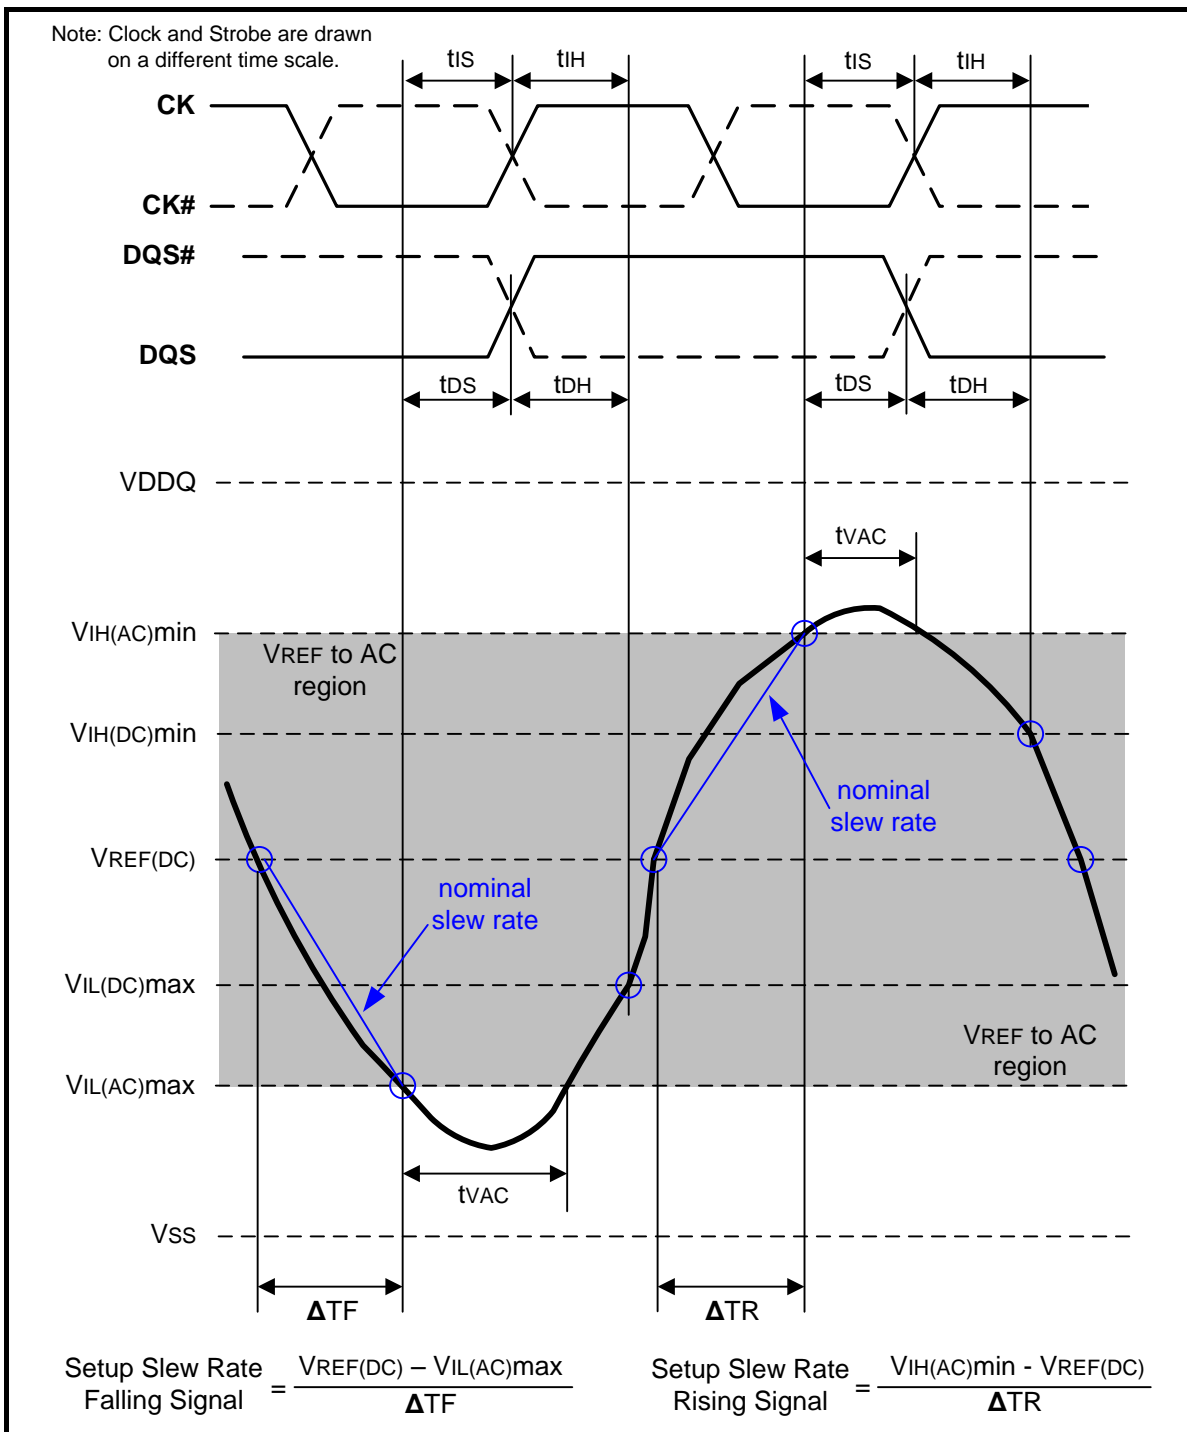
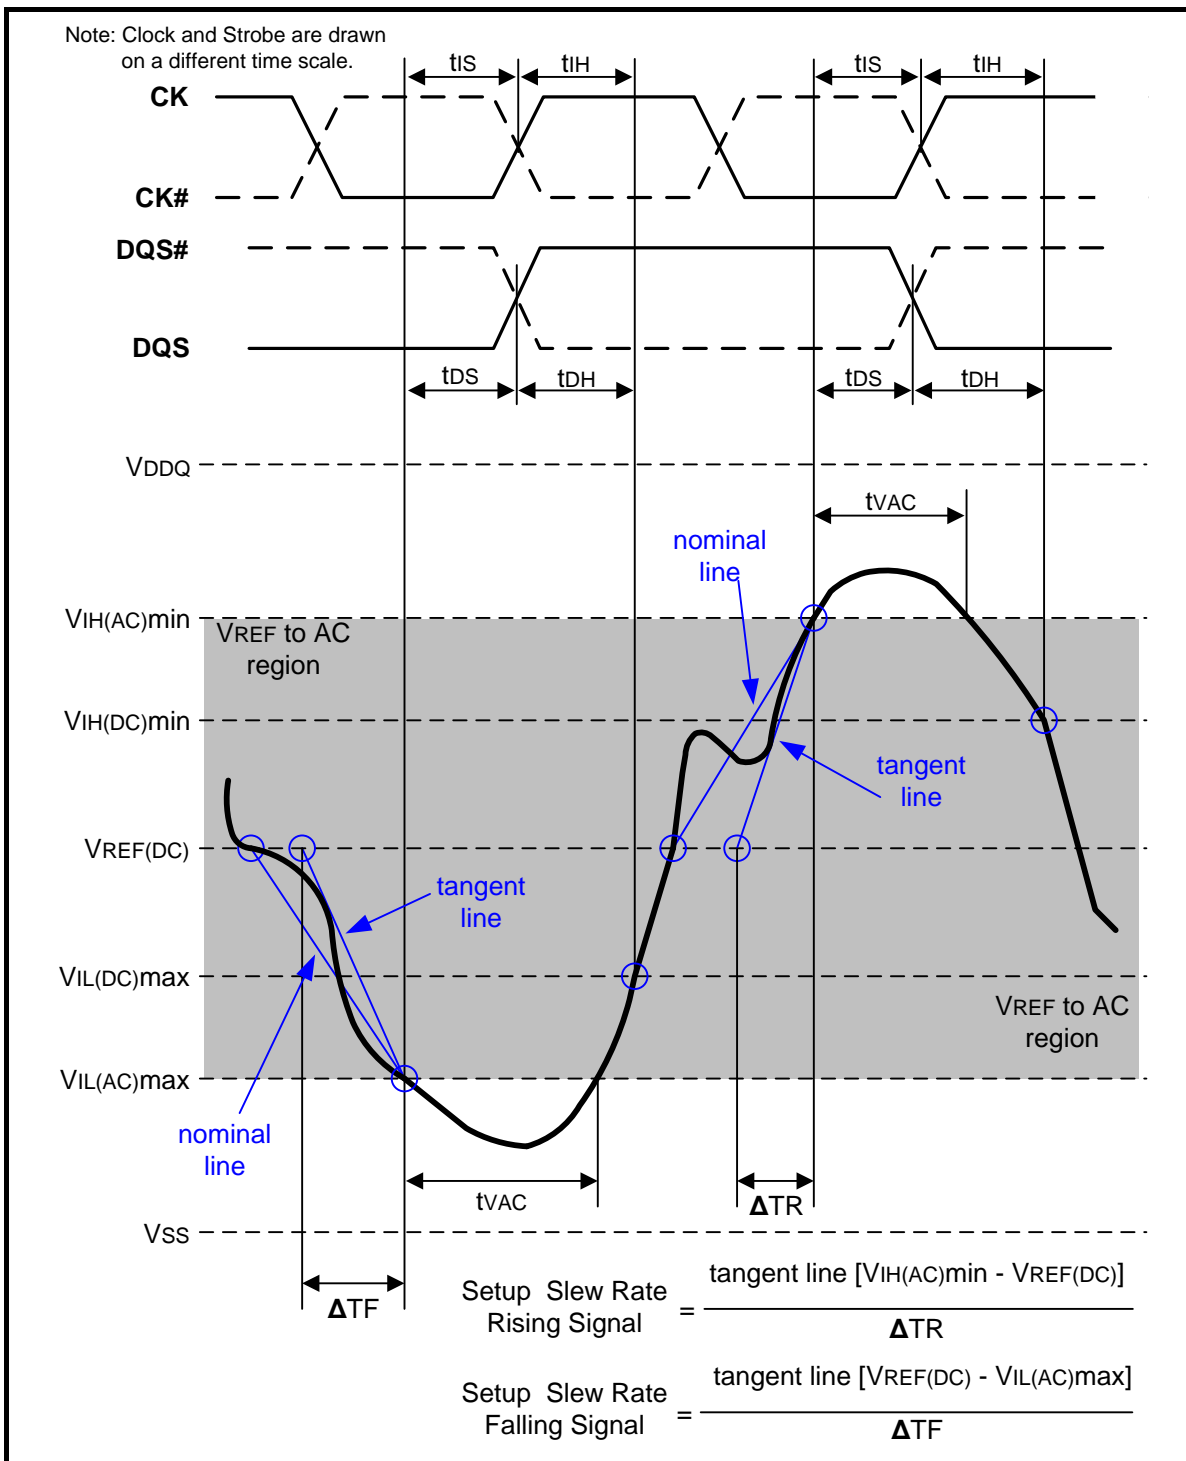

Figure 107 – Illustration of nominal slew rate and tVAC for setup time tDS (for DQ with respect to strobe) and tIS (for ADD/CMD with respect to clock)
Figure 109 – Illustration of tangent line for setup time t_{DS} (for DQ with respect to strobe) and t_{IS} (for ADD/CMD with respect to clock)
Setup (t_{IS}) nominal slew rate for a rising signal is defined as the slew rate between the last crossing of $V_{REF}(\text{DC})$ and the first crossing of $V_{IH}(\text{AC})_{\text{min}}$. Setup (t_{IS}) nominal slew rate for a falling signal is defined as the slew rate between the last crossing of $V_{REF}(\text{DC})$ and the first crossing of $V_{IL}(\text{AC})_{\text{max}}$. If the actual signal is always earlier than the nominal slew rate line between shaded 'VREF(DC) to AC region', use nominal slew rate for derating value (see Figure 107). If the actual signal is later than the nominal slew rate line anywhere between shaded 'VREF(DC) to AC region', the slew rate of a tangent line to the actual signal from the AC level to DC level is used for derating value (see Figure 109).
Setup (tDS) nominal slew rate for a rising signal is defined as the slew rate between the last crossing of VREF(DC) and the first crossing of VIH(AC)min. Setup (tDS) nominal slew rate for a falling signal is defined as the slew rate between the last crossing of VREF(DC) and the first crossing of VIL(AC)max (see Figure 107). If the actual signal is always earlier than the nominal slew rate line between shaded 'VREF(DC) to AC region', use nominal slew rate for derating value. If the actual signal is later than the nominal slew rate line anywhere between shaded 'VREF(DC) to AC region', the slew rate of a tangent line to the actual signal from the AC level to DC level is used for derating value (see Figure 109).